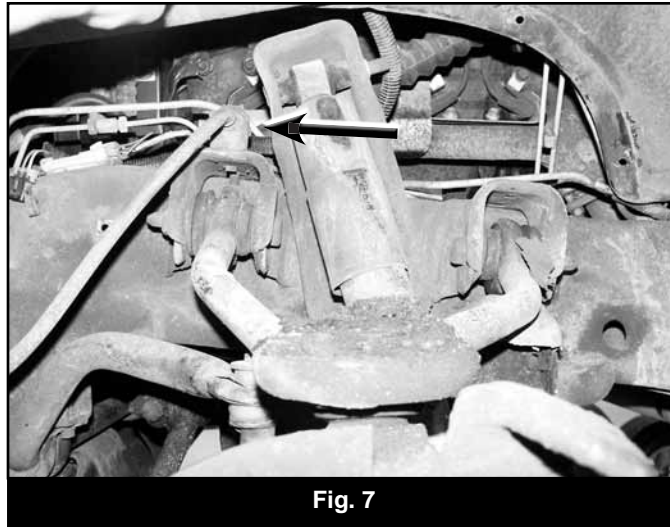

Fig. 7
18. Disconnect the brake line clip from brakeline (Fig 7), located above the upper control arm. Disconnect the rubber flexline from hardline at this location with a line wrench.